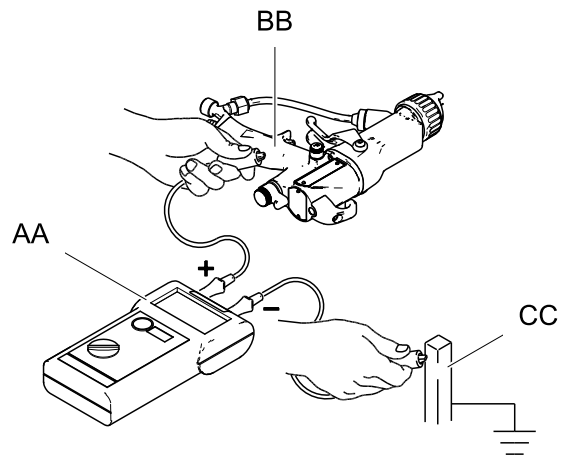

Figure 14 Check Gun Electrical Grounding
Megohmmeter Part No. 241079 (AA, see Fig. 14) is not approved for use in a hazardous location. To reduce the risk of sparking, do not use the megohmmeter to check electrical grounding unless:
2. Turn OFF (O) the ES On-Off switch.
5. Make sure the grounded air hose (AH) is connected and the hose ground wire is connected to a true earth ground.
6. Measure the resistance between the gun handle (BB) and a true earth ground (CC). Use an applied voltage of 500 minimum to 1000 volts maximum. The resistance should not exceed 1 megohm. See Fig. 14.